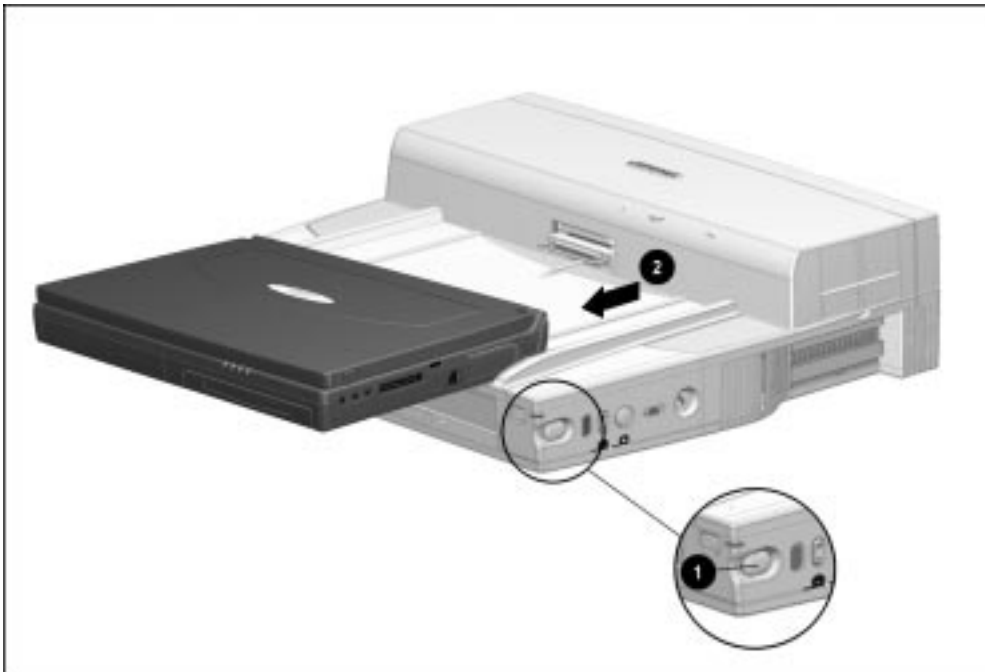

Figure 5-3. Undocking the Computer from the ArmadaStation
4. Press the eject button **1**. The computer separates from the docking connector on the ArmadaStation **2** (Figure 5-3).